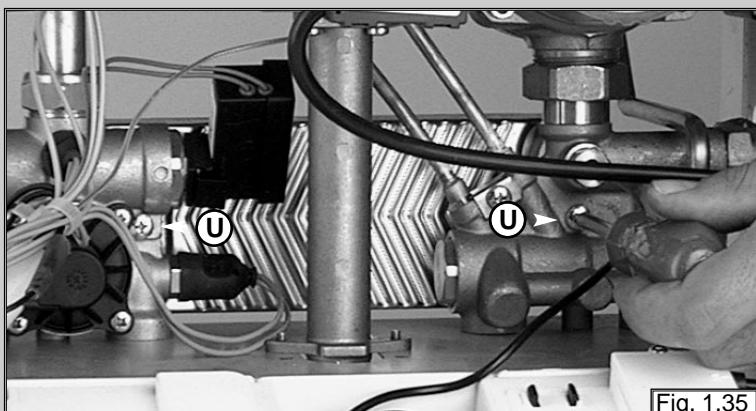

Fig. 1.35
1. Remove the screw "U" (see fig. 1.35);